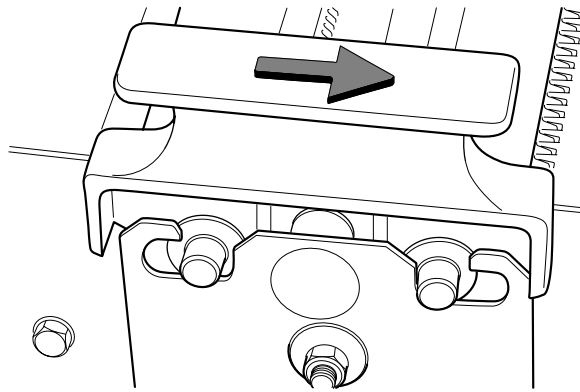

Fig. 3
- Place the upper racks carefully back on the corresponding lower racks. Notice the arrow that indicates the film-transport direction (fig. 3).